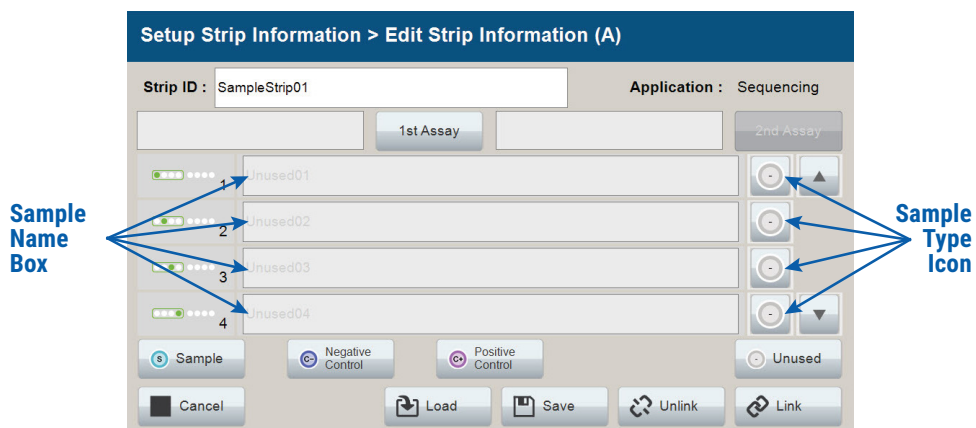
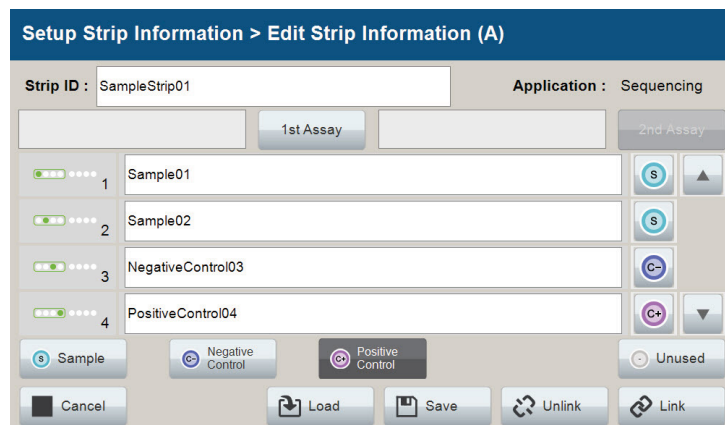

Figure 84. Sample Type and Sample Name on 'Edit Strip Information' screen.
Figure 85. Sample Name Entry on 'Edit Strip Information' screen.
2. Select a sample type on the 'Edit Strip Information' screen (Figure 84). Sample types must be selected for each well position before the **Sample Name** box becomes active for entry of sample name. Sample types available for sequencing analysis are listed in the following table.
3. To assign a sample type to a well, select the appropriate sample type along the bottom of the 'Edit Strip Information' screen (Figure 84), and then select the **Sample Type** icon to the right of the sample name field for the desired well. This icon will then display the sample type selected for that well (Figure 85).
4. Enter a sample name for each well position by selecting the **Sample Name** box adjacent to the well number on the 'Edit Strip Information' screen (Figure 85). This opens the 'Set Sample Name' window, and a keypad will become active on the touch screen (Figure 86). Alternatively, the Sample Name can be entered using a traditional keyboard if one is connected to the Spectrum Compact CE System. Enter the appropriate sample name, and then select **OK** to exit and return to the 'Edit Strip Information' screen. The following table lists rules for characters that can be used for a sample name.
- The Spectrum Compact Control Software includes preloaded run assays for use with chemistries available from commercial suppliers. To create a new assay or modify an existing assay, see Section 7. To assign a run assay to an injection set, select **1st Assay** on the right side of the 1st Assay field (Figure 85). This opens the 'Select Assay' screen (Figure 87). Select an assay from the drop-down list using the scroll buttons to find the appropriate assay.